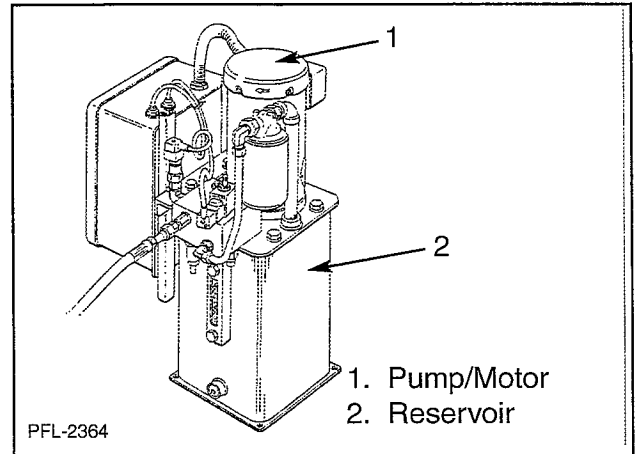

Figure 14
2. The motor then rotates, and the two enmeshed gears in the gear pump interact to lift the hydraulic fluid from the reservoir and force it past a line check valve into the hydraulic system where the fluid is now pressurized. See Figure 14.